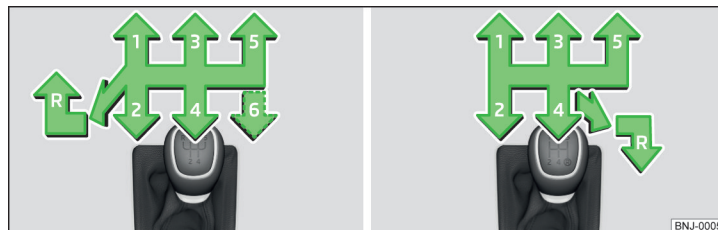

Fig. 109 Shift pattern of the transmission Version 1/version 2
The individual gear positions are shown on the gear shift » Fig. 109.
- Move the shift lever fully to the left and then forward into the **R** position » Fig. 109.